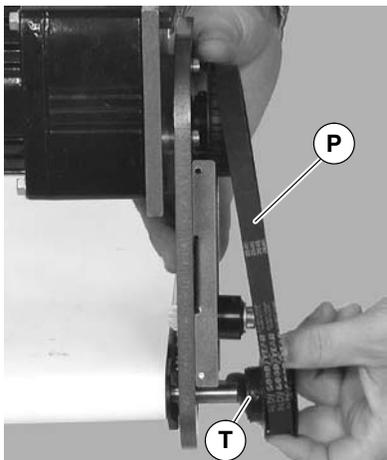

Figure 15
- Remove timing belt (Figure 15, item P).
<p>If timing belt does not slide over pulley flange, loosen two driven pulley set screws (Figure 15, item T) and remove pulley with belt (P). For re-installation, see steps 6 and 7 on page 10.</p>